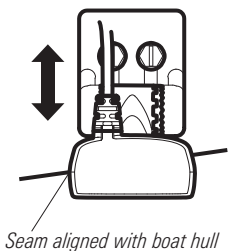

Figure 23
6. Adjust the transducer assembly vertically, until the seam on the leading edge of the transducer (the edge closest to the transom of the boat) is level and just slightly below the hull (Figure 23).
5. If you have the correct angle set on the transducer, yet lose a bottom reading at high speed, adjust the height and the running angle in small increments to determine the ideal transducer position for your boat. First, adjust the height in small increments (Figure 23).